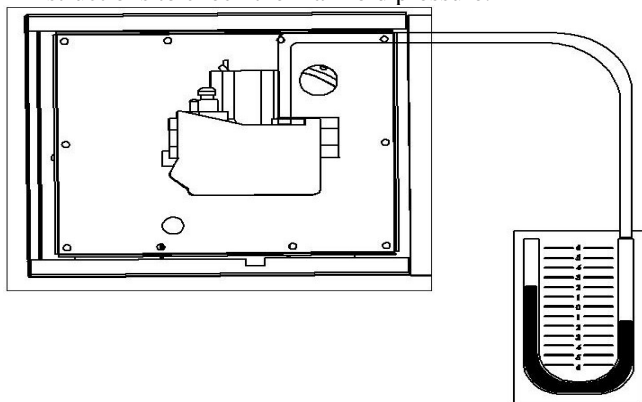

Figure 30: Reading the Inlet (Supply) Gas Pressure (INP)
- 1 Use the 3/32" (2.4 mm) Allen wrench to loosen the set screw by turning it counter clockwise one (1) turn only on the “OUT P” port. **DO NOT REMOVE THE SET SCREW.**
- 2 Connect the 1/8" (3.175 mm) ID flexible tubing to the positive side of the “U” tube monometer or pressure gauge and the other end of the tubing to the port marked “OUT P” on the gas valve as shown in Figure 30.